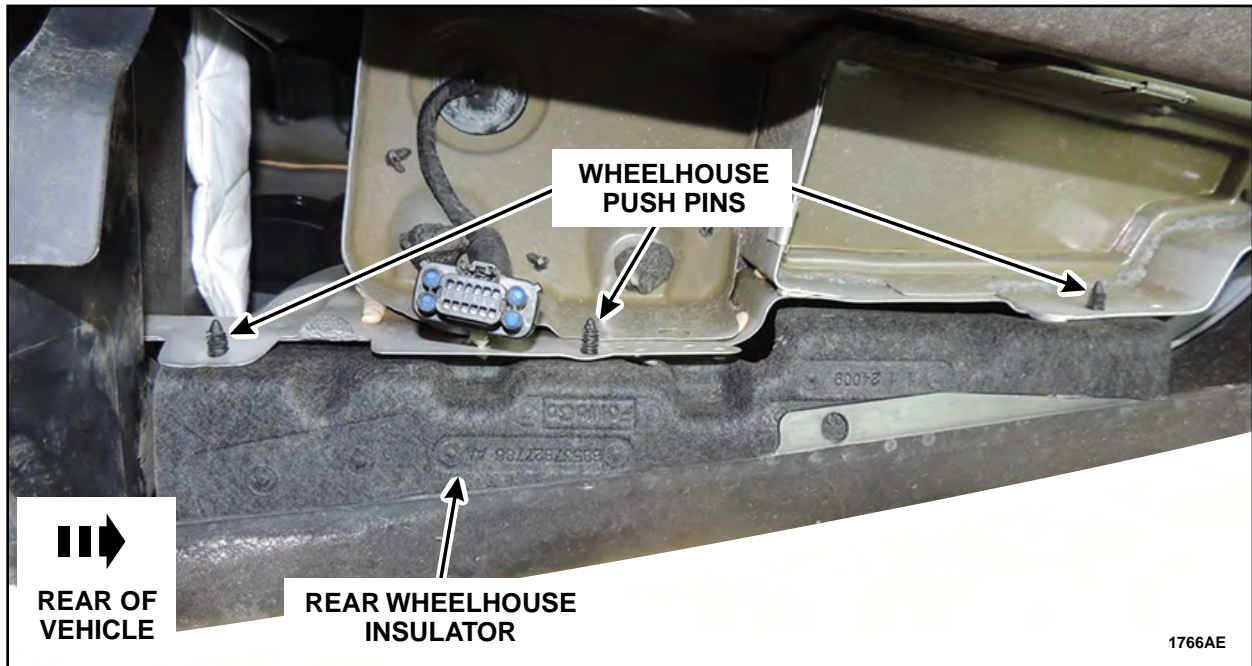

FIGURE 3
3. Remove the three push-pins securing the LH and RH rear wheelhouse insulators, and remove the insulators. See Figure 3.